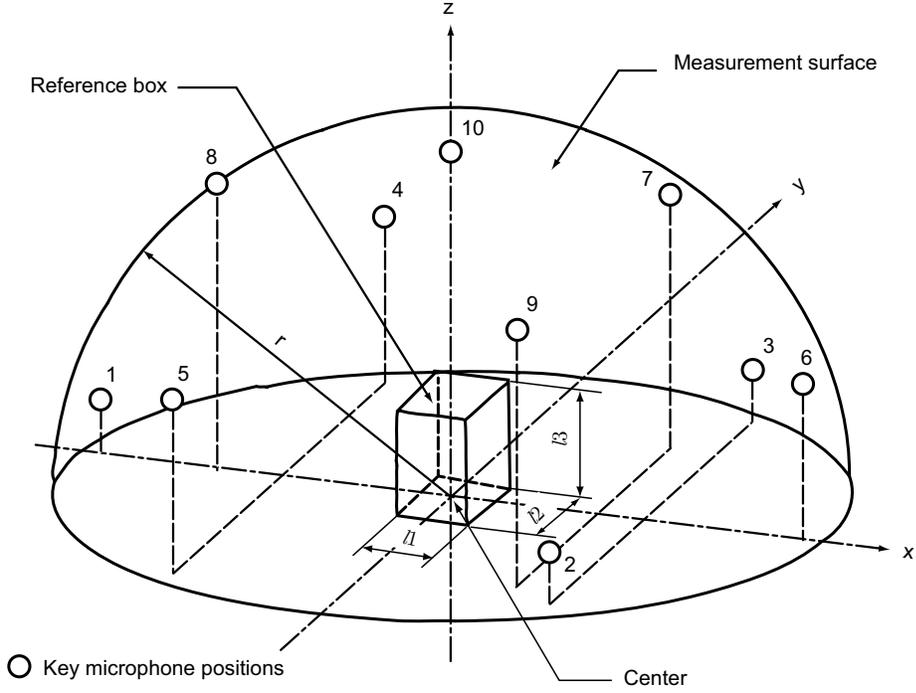

Figure 7.36 ISO3744 - Microphone array on the hemisphere.
**Hemisphere** Use hemisphere measurement surface when there is only one reflecting plane. Figure 7.36 shows a hemisphere measurement surface centered at **Center**. Click on the **Suggest** button to auto fill the measurement surface variables in agreement with the standard. Verify the input you have entered by clicking on the **Check** button. *Coustyx* checks to see if the input variables satisfy the standard requirements. If the standard requirements are not met, a message window pops up to help you make appropriate corrections.
**X-Axis** Specify the orientation of the X-axis here. See Figure 7.36 for definition.
**Y-Axis** Specify the orientation of the Y-axis here. See Figure 7.36 for definition.
**Microphone Array** Choose any of the available types of microphone arrays from the drop-down menu. Figure 7.36 shows a microphone array on the hemisphere.
**Fixed Positions** The microphone positions for this option are listed in Table 7.6 (Figure 7.36). The key microphone positions are numbered from 1 to 10 and the additional microphones are numbered from 11 to 20. Note that the overhead positions 10 and 20 coincide.